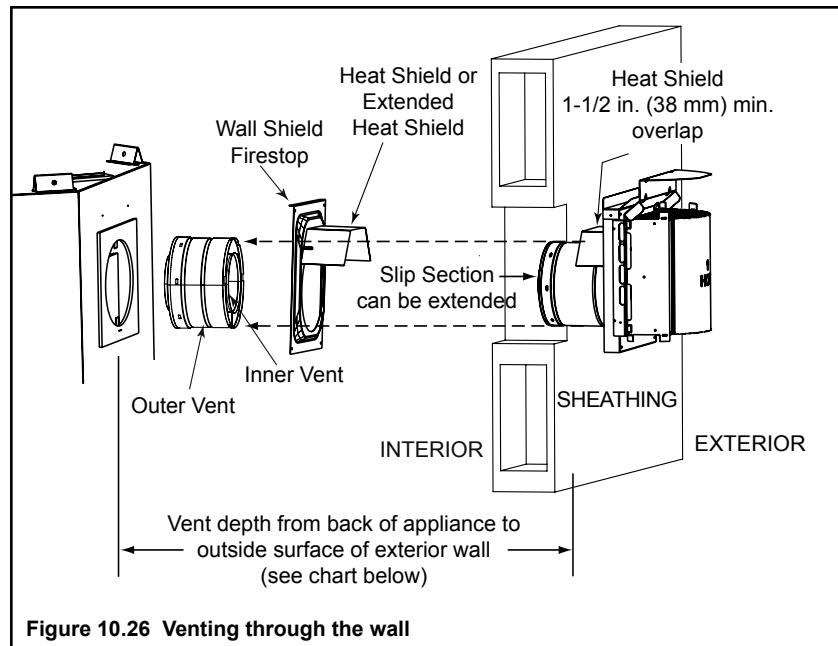

Figure 10.26 Venting through the wall
- **DO NOT** remove the heat shields attached to the wall shield firestop and the horizontal termination cap (shown in Figure 10.26).
There are two sections of the heat shield. One section is factory-attached to the wall shield firestop. The other section is factory-attached to the cap. See Figure 10.26.